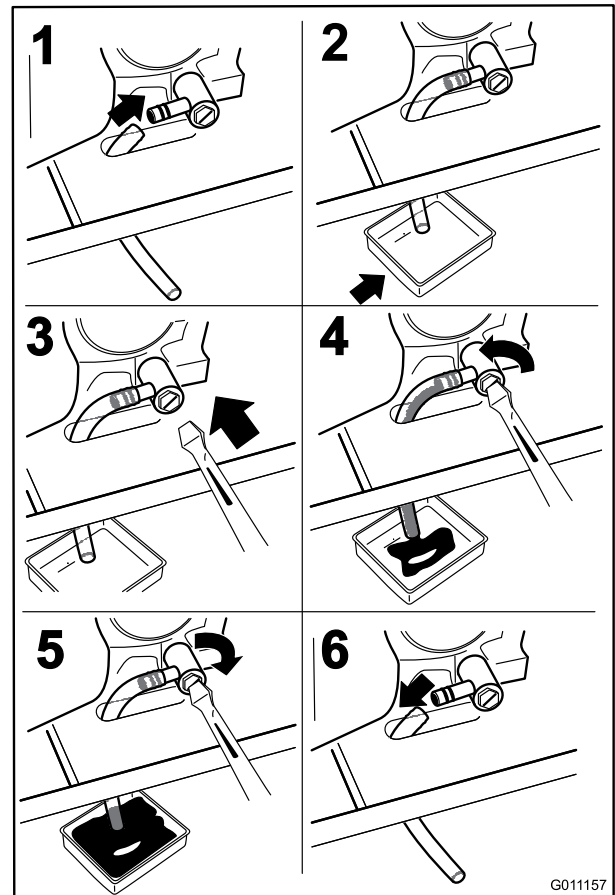

Figure 41
- Stop the engine, remove the key, and wait for all moving parts to stop before leaving the operating position (Figure 41).